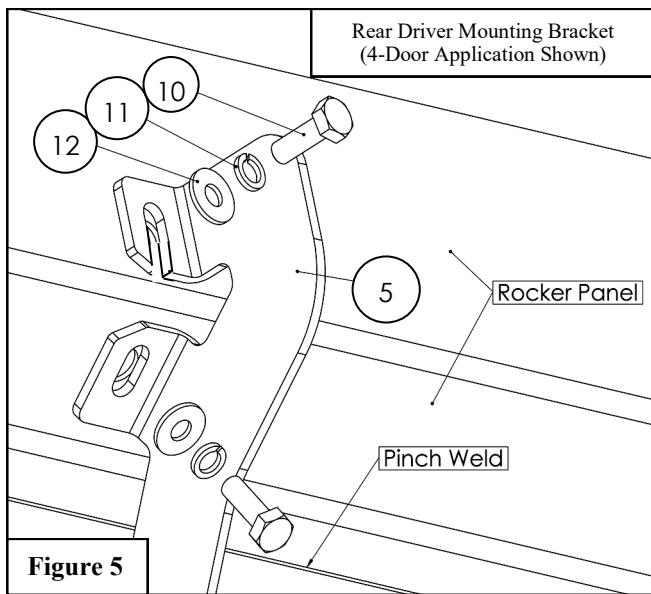
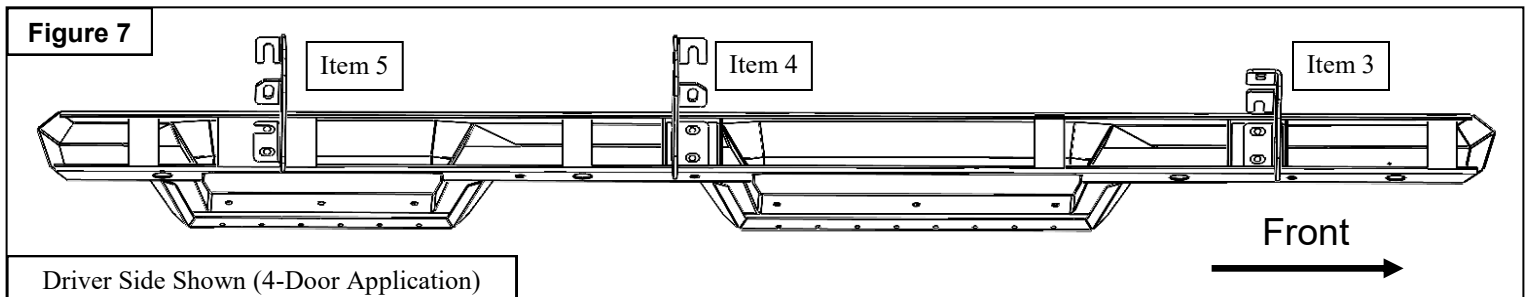

Figure 5
Figure 7
4. Loosely install the Front Mounting Bracket (Item 3) to the rocker panel using the supplied M10 hardware. See **Figure 3** for reference. Please refer to **Figures 7 through 10** for bracket orientation and location.
6. Please refer to **Figures 7 through 10** for bracket orientation and location.
7. Loosely install Rear Mounting Bracket (Item 5) to the rocker panel using the supplied M10 hardware as shown in **Figure 5**. Please refer to **Figures 7 through 10** for bracket orientation and location.